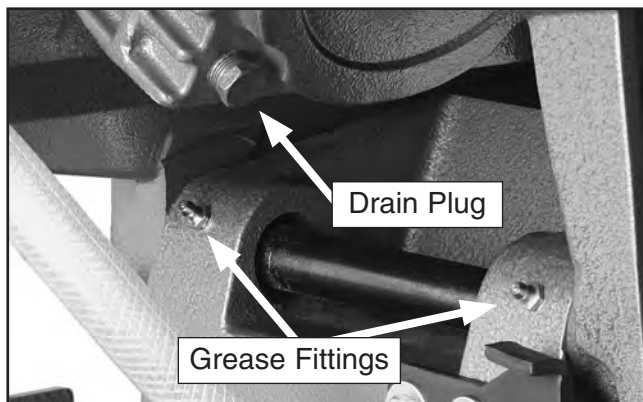

Figure 35. Lubrication points.
- **Grease Fittings on Pivot Point:** Grease these with general purpose grease as needed to keep the pivot moving freely (see **Figure 35**).
4. Drain the gearbox by removing the drain plug shown in **Figure 35**.